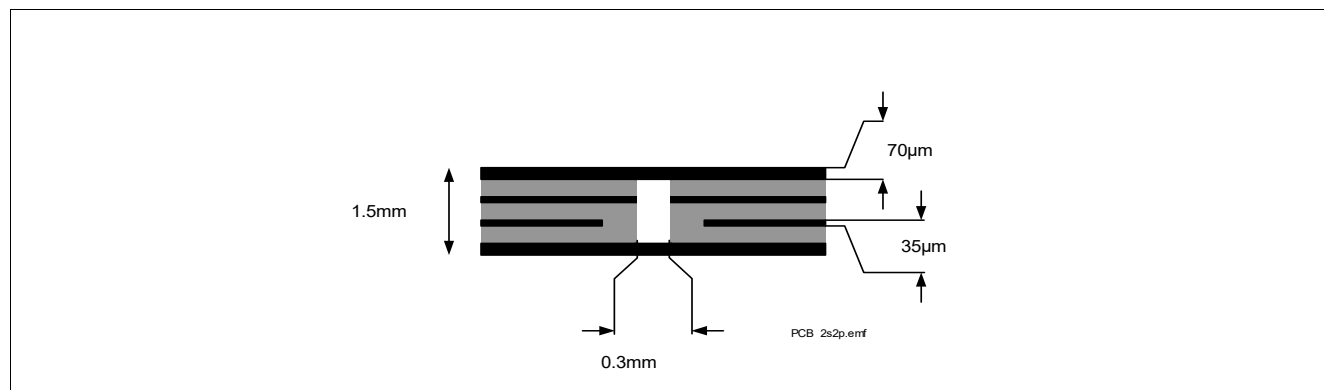
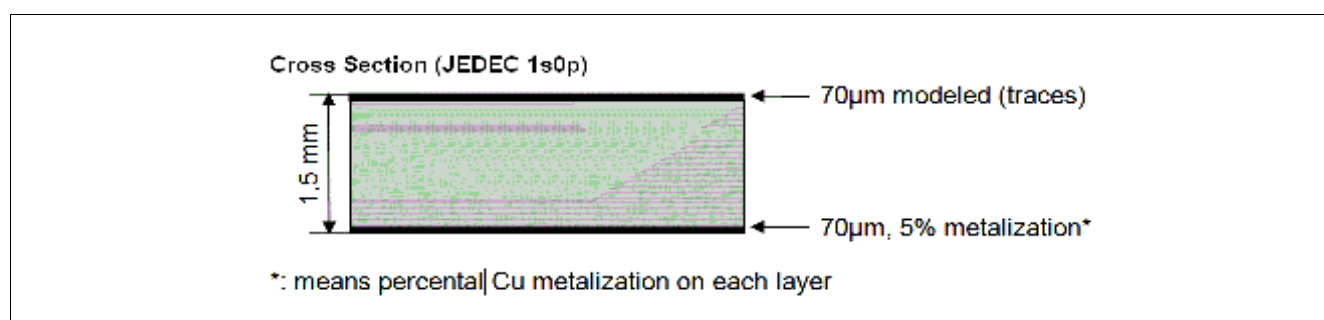

Figure 4 2s2p PCB Cross Section
Figure 5 1s0p PCB Cross Section
2) Specified R_{thJA} value is according to JEDEC JESD51-2,-5,-7 at natural convection on FR4 2s2p board with 1 W power dissipation equally dissipated for both channels at $T_A = 105^{\circ}\text{C}$; The product (chip + package) was simulated on a 76.4 x 114.3 x 1.5 mm board with 2 inner copper layers (2 x 70 μm Cu, 2 x 35 μm Cu). Where applicable, a thermal via array under the exposed pad contacts the first inner copper layer. Please refer to Figure 4.
PCB set-up according Figure 4 / Figure 5